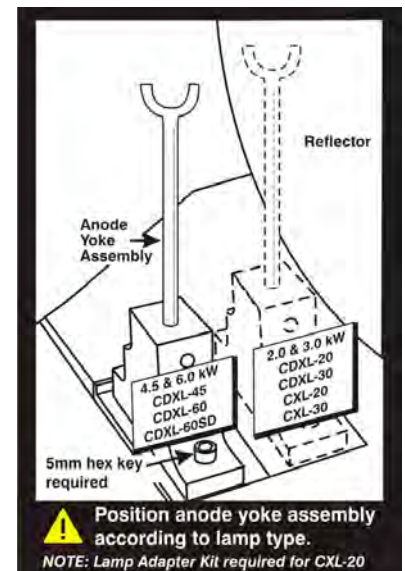

Figure 4-2 Lamp Yoke Position
- Check that the anode yoke (lamp yoke) is in the correct position. (Figure 4-2)